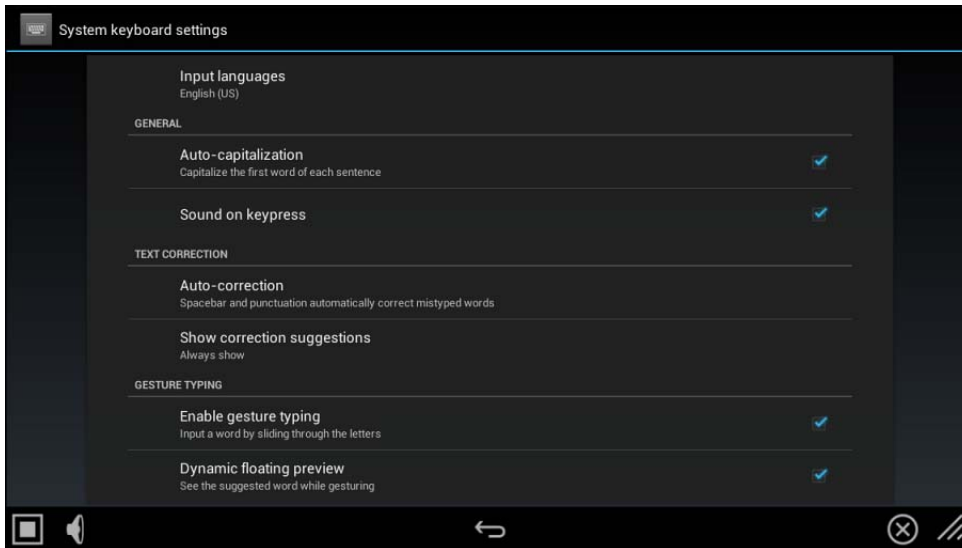

FIG. 89 System Keyboard Settings page
- Press the **Settings icon** next to *System keyboard* to access the *System Keyboard Settings* page (FIG. 89):